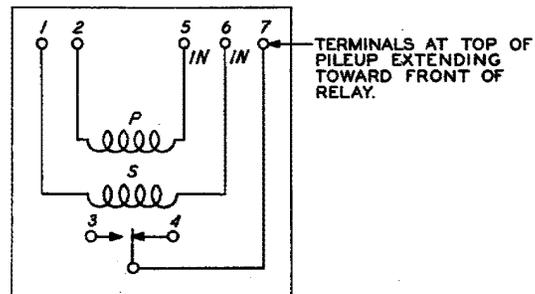
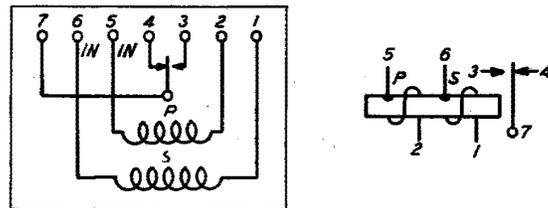

Fig. 51 — Winding and Spring Terminal Arrangement as Viewed From the Front (contact side) — 267-Type Relays
Fig. 52 — Winding and Spring Terminal Arrangement as Viewed From the Rear (terminal side) — 267-Type Relays
2.65 As viewed from the front, the contact and winding terminals are numbered consecutively from 1 up starting at the left as shown in Fig. 51. However, the front and back contacts (numbered 3 and 4, respectively, at the rear) connect directly to the wiring terminals, and do not appear among the terminals used to connect to the relay from the front. Viewed from the front, the terminals which extend forward from the terminal assembly have the same number as they do at the rear. They therefore number from left to right as viewed from the front starting with 1. As viewed from the rear the contact and winding terminals are numbered consecutively from 1 up, starting at the right as shown in Fig. 52.